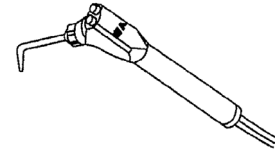

Fig.6-3 Belmont 77 Syringe
3. Belmont 77 Syringe (Fig.6-3)